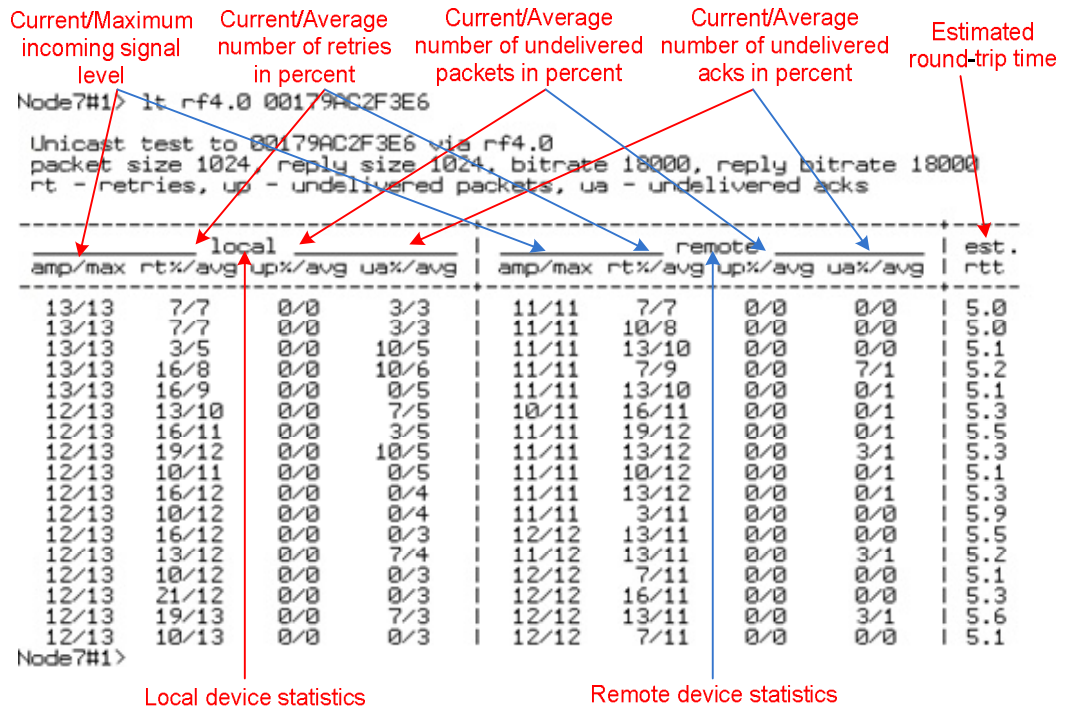

Figure 26. “lttest” output
2. Antenna alignment should be done only from one side at one time. Align one side, than other side. Use mobile phones to check current signal levels. The output of lttest command is demonstrated on the Figure 26.